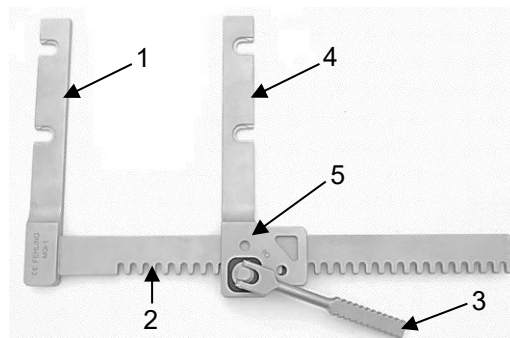

Fig. 6
Figure 6 shows the FALK sternum retractor, which is a U-shaped bar retractor with pinion. The bar retractor consists of a fixed retractor arm (1), a toothed rack (2) and a movable retractor arm (4).